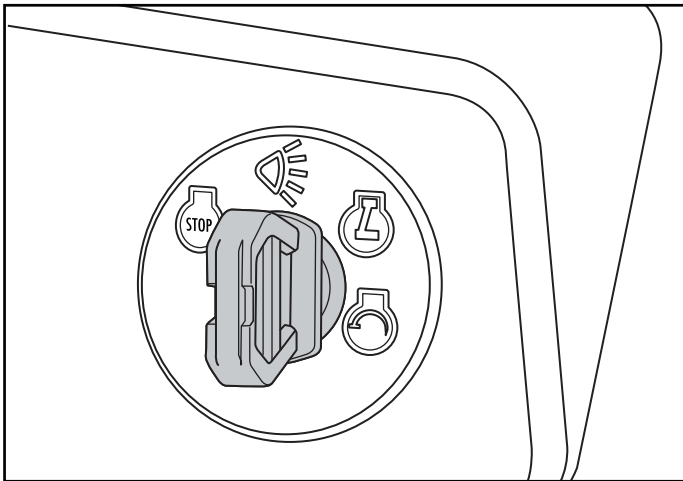

Fig. 16
1. To turn on the headlights, turn the key from the RUN position to the HEADLIGHT position.(Fig. 16)